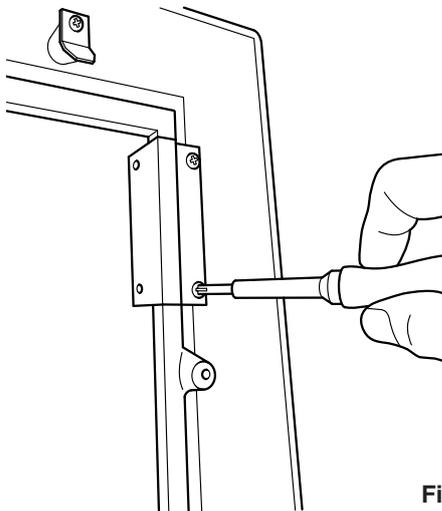

Fig. 12
4. Now remove the two galvanized steel canopy brackets as shown (Fig. 12) and discard the brackets and their screws.